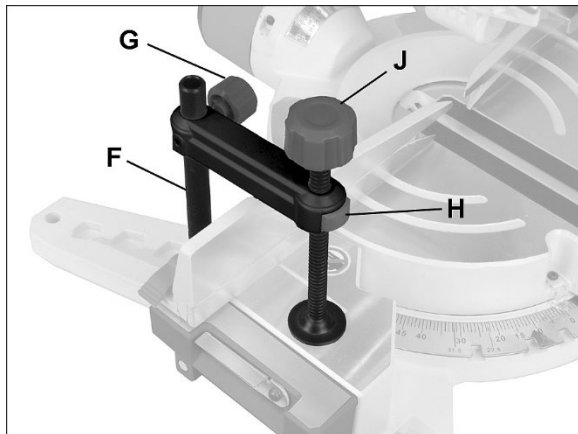

Figure 6-2
1. Insert hold-down post (F, Figure 6-2) into mounting hole located behind left or right fence.
2. Loosen knob (G) to raise or lower clamp support, then tighten knob.
3. Press button (H) to allow clamp to drop onto workpiece, then use knob (J) to tighten clamp against workpiece.